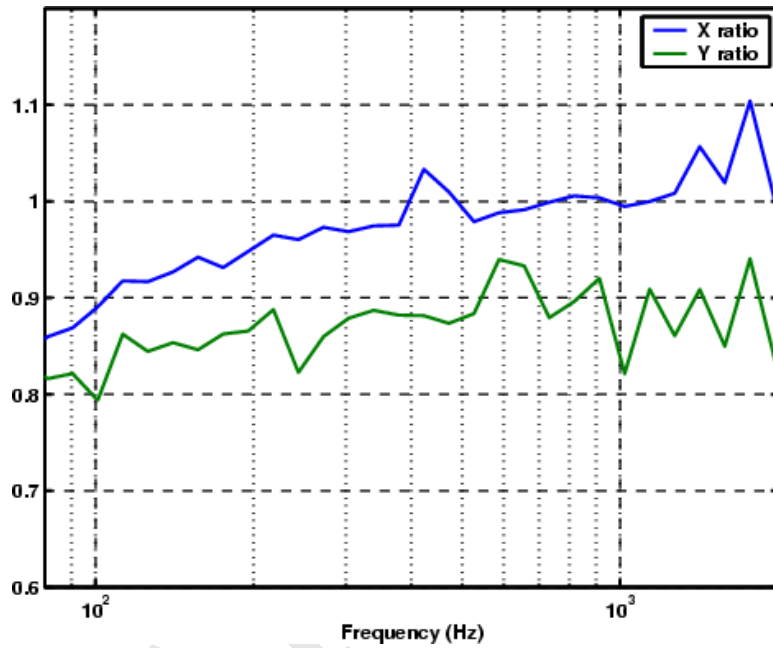
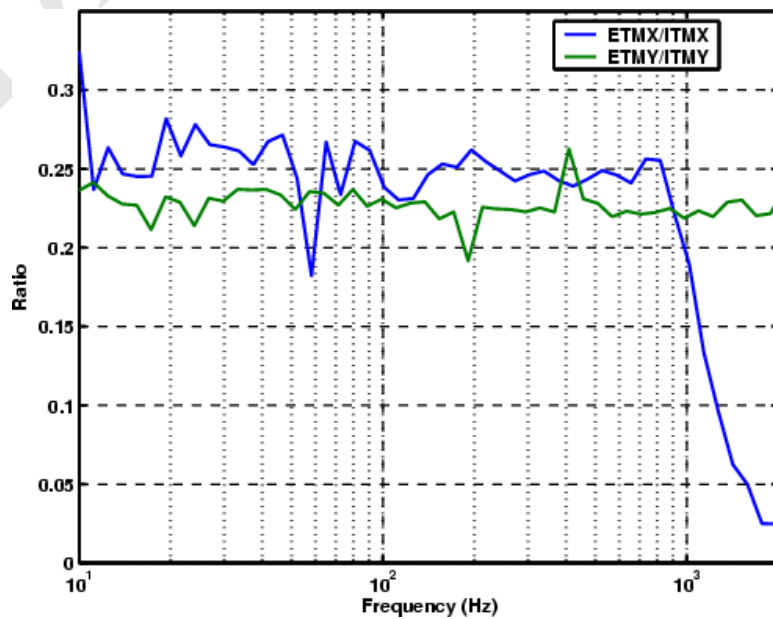

Figure 4: Ratio of the transfer functions of ITM/AS_I and ETM/AS_I for L1.
Figure 5: Ratio of the transfer functions of ITM/AS_I and ETM/AS_I for H1.
- Finally the ratio of the ITM/AS_I and ETM/AS_I transfer functions should ideally be flat. As shown in Figure 4 this is not the case for L1, probably due to a mismatch between the run and acquire filter paths in the coil driver module. This gives a contribution to the uncertainty of $\simeq 6\%$ for L1. The Hanford interferometers can be calibrated in run mode and so this mismatch is not a problem. The transfer function ratios for H1 and H2 are shown in Figures 5 and 6.